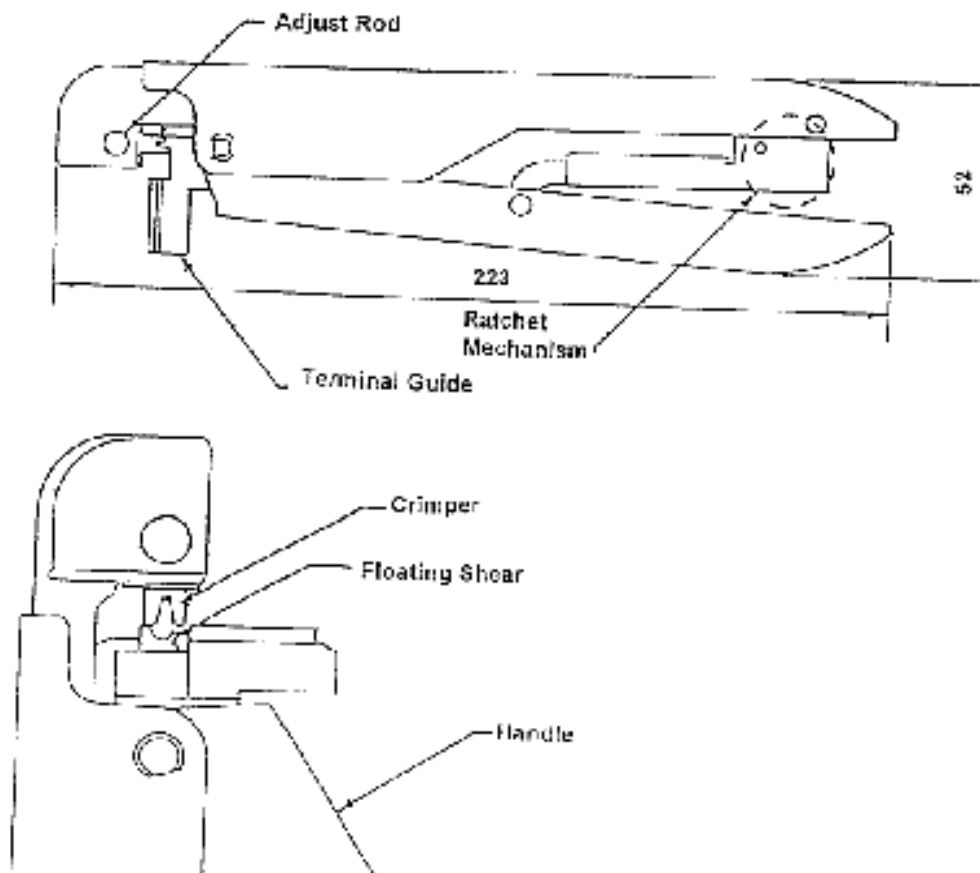
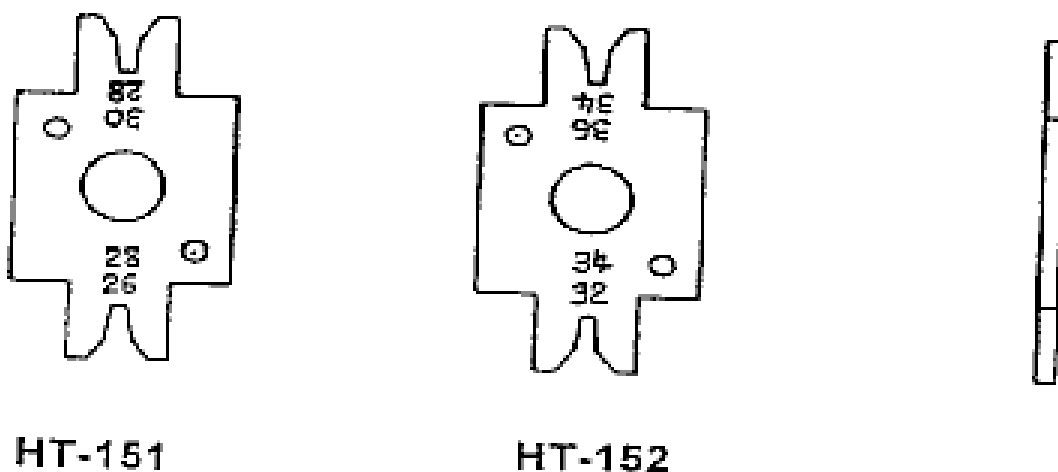

Figure 1
Figure 2
See Figure 1 for part names of the Hand-Tool
The crimper can be easily changed by pulling off the adjust rod shown in Figure 1. Figure 2 shows the crimpers removed from the hand-tool.
The crimper has marks showing AWG wire size applicable to each crimping area. Refer to the marks in Figure 2 and Table 1, including Terminal P/N, Applicable Wire Size and Insulation Diameter when crimping.
- (1) Hold handles with the stamp of wire size (shown in Figure 2) facing the operator. Close the handles until ratchet releases to open handles.